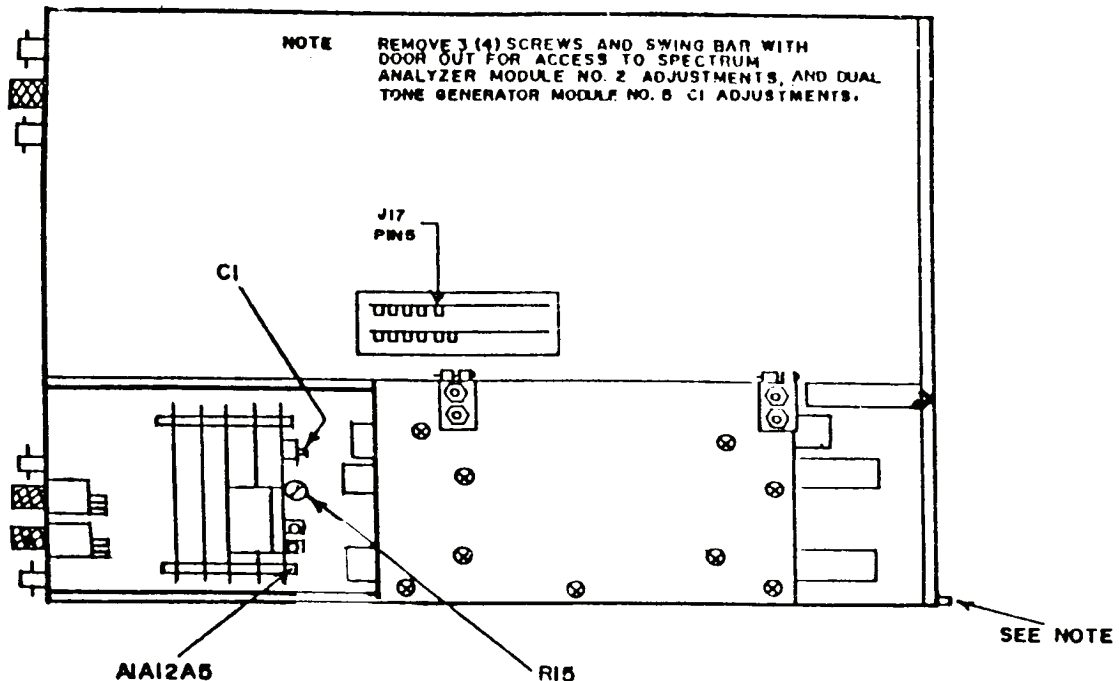

Figure 2. Test instrument - bottom view.
- (1) Adjust A1A12A5C1 (fig. 2) until frequency counter indicates 1000 Hz \pm 0.1 Hz (R).
- (2) Adjust A1A2A5R15 (fig. 2) until frequency counter indicates 1000 Hz (R).